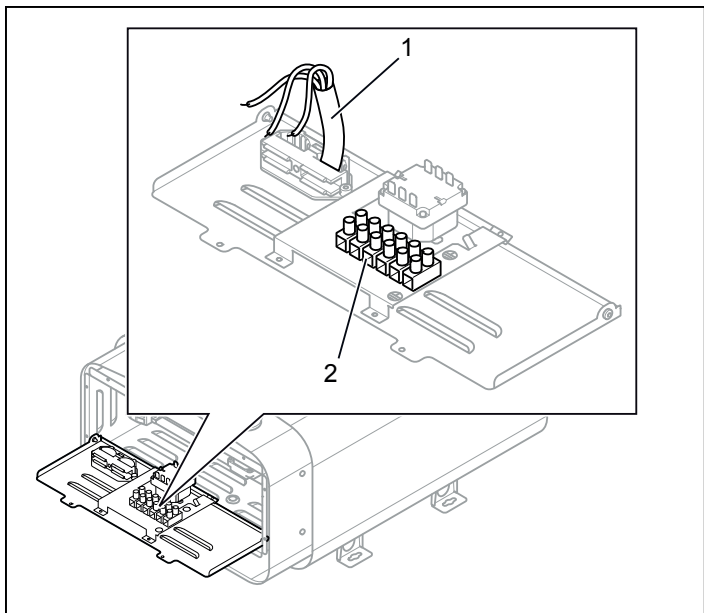
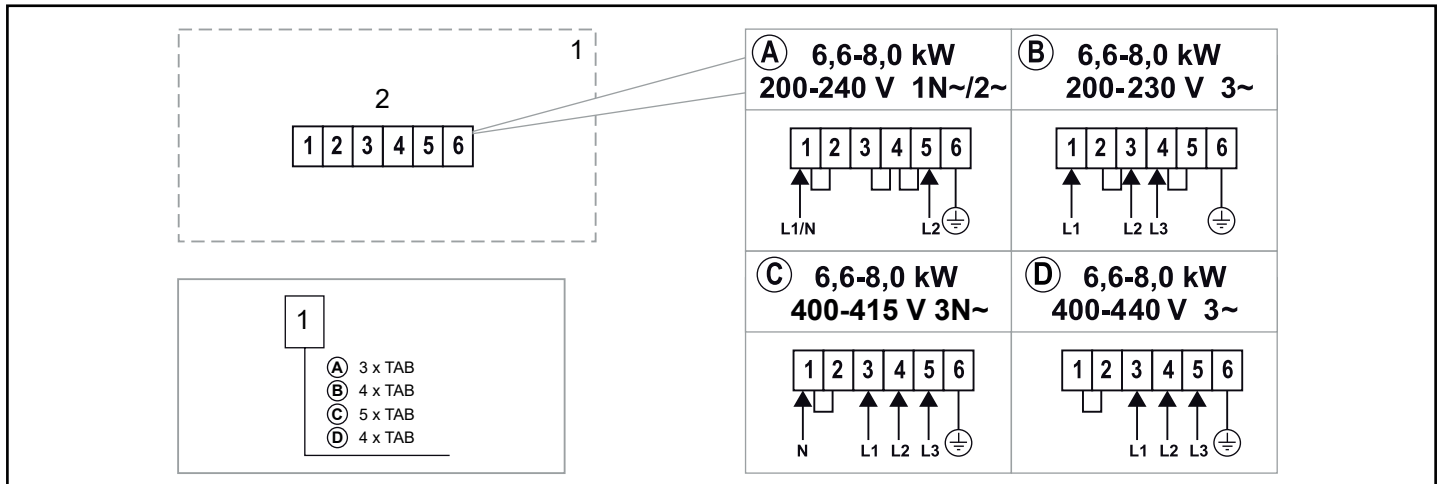

Figure 6: Circuit board
Figure 12: Wiring diagram
3. Connect the electrical cable (see Figure 6) according to wiring diagram (see Figure 12).
Before connecting to voltages or numbers of phases not listed in the wiring diagram Figure 12, contact Tylö Customer Service.